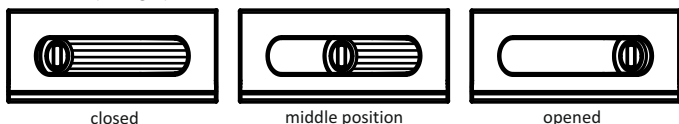

Fig. 4. The example adjustment of the air supply to the furnace (ash tray façade).
- the handle adjusting the damper, by adjusting the chimney draft, (see fig. 4),